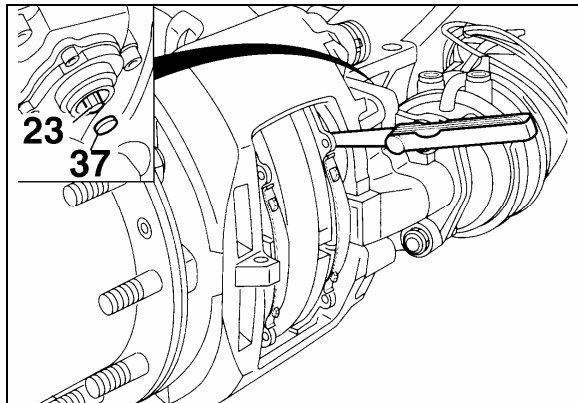

FIGURE 35: RUNNING CLEARANCE
- Insert a feeler gauge 0.028 inch (0.7 mm thickness) between tappet and pad backplate (Fig. 35). Turn adjuster pinion clockwise until 0.028 inch (0.7 mm) clearance is achieved. Replace cap (37) (Prévost # 641313).
- To ensure a constant running clearance between the rotor and pads, the brake is equipped with an automatic adjuster unit. When the pads and rotor wear, the running clearance between the pads and rotor increases. The adjuster (23, Fig. 35) and turning device turn the threaded tubes by the amount necessary to compensate the wear.